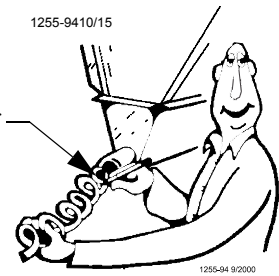

Figure 42. Marking the
7. Pull the auger at the boot end until it begins stretching then let it relax. In the relaxed position, mark the auger at the end of the boot. See Figure 42.